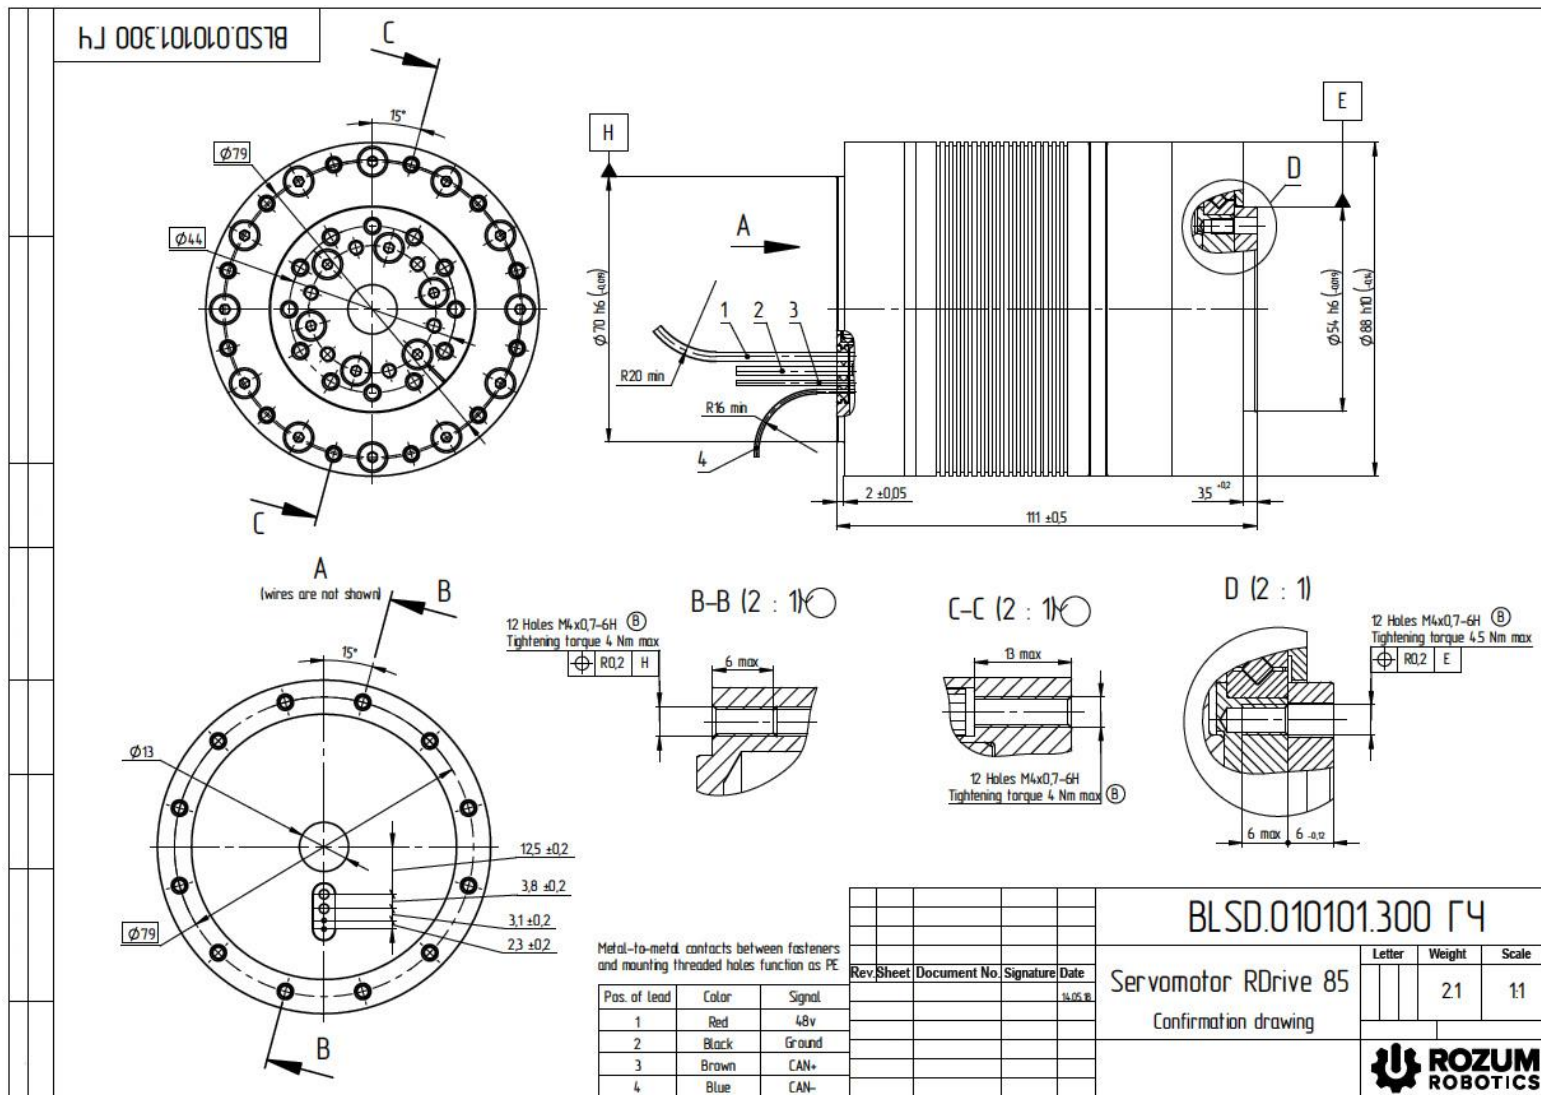

Figure 4-1: The installation drawing for the RD85 servo motor
- A. Insert twelve M4 screws into the holes on the rear mounting flange (Section B-B, Figure 4-1) and tighten them to the torque of 4 N·m max.
- B. Screw the servo down on its front cover with twelve M4 screws (Section C-C, Figure 4-1). The tightening torque should be 4 N·m max.
For the color scheme, cable arrangement, and protective earthing, refer to Figure 4-1.